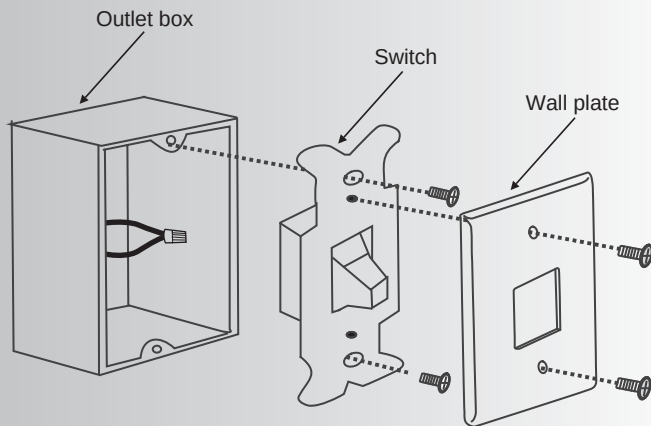

Fig. 30
Step 1. Remove the existing wall plate and the old switch from the wall outlet box. Wire nut the **BLACK** leads (hot) together and push back inside the outlet box. (Fig. 30)